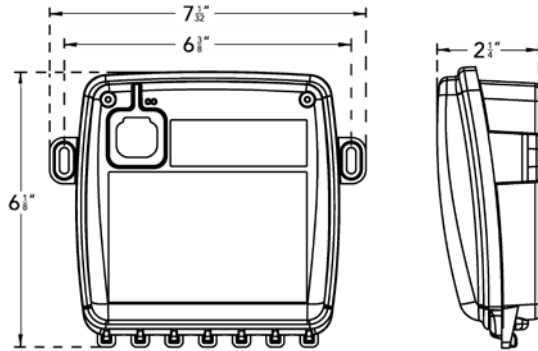

**Figure 3**
**Figure 3** shows the colors (purple, white, blue, red, and yellow) used between each ChromaSteam3 connection.
**Figure 3** shows how the ChromaSteam3 fixture and control box interconnect with each other, and with the steam generator and iSteam3/iSteamV.